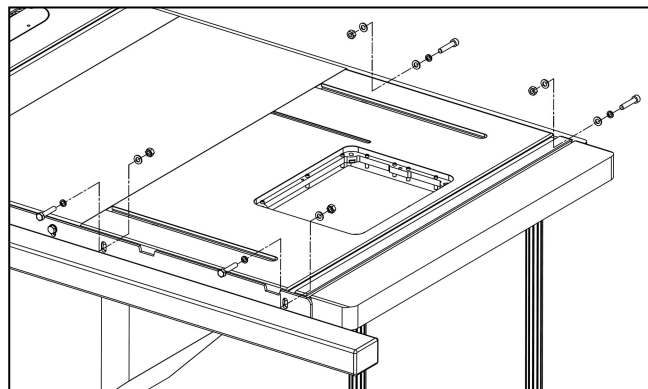

Fig. 13
3. The router table needs to be fixed with the fence rail if it is installed on the right side of the saw blade, as shown in Fig. 13.